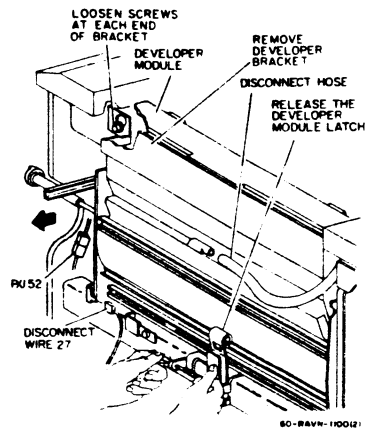

Figure 1. Preparing to Remove Developer Module
3. PREPARE TO REMOVE DEVELOPER MODULE (FIGURE 1).